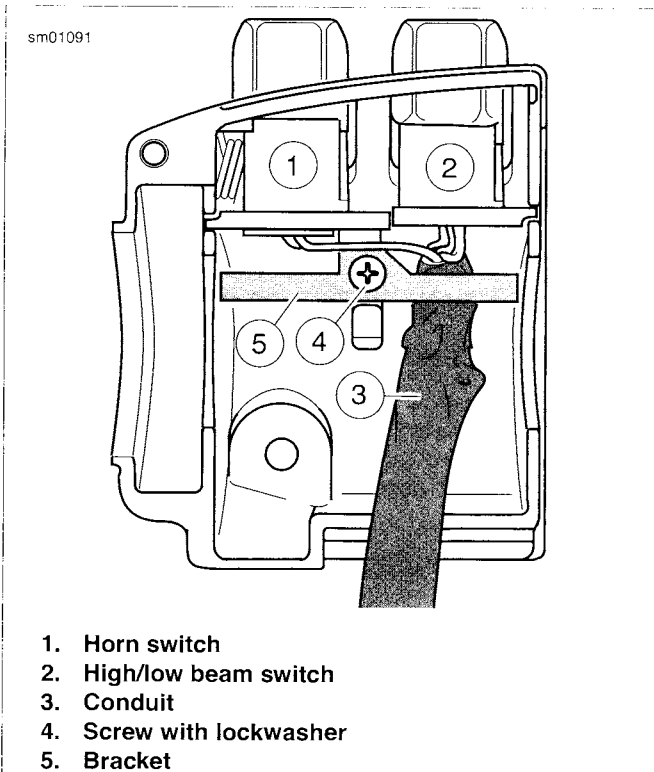
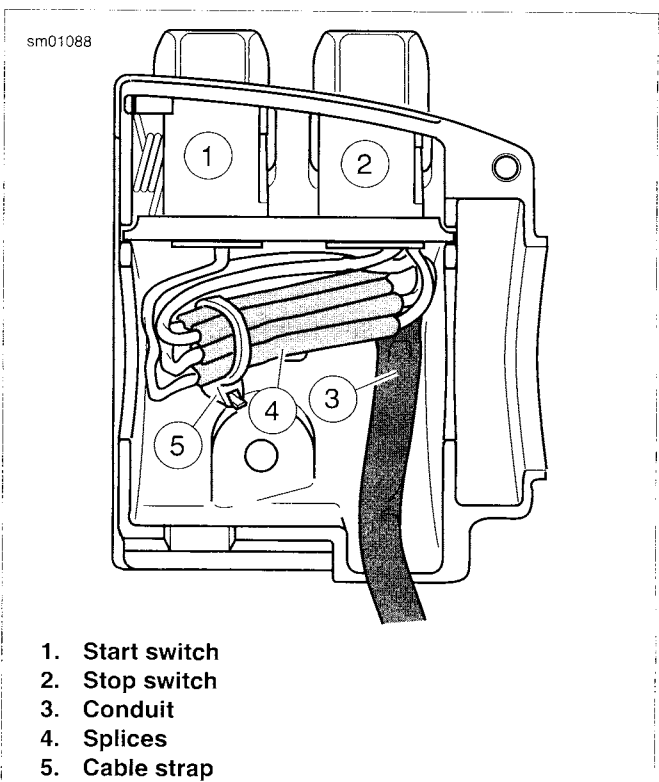

Figure 7-96. Upper Housing Without Splices
Figure 7-97. Upper Housing With Splices
1. See Figure 7-96. From inside the switch housing, remove the screw with lockwasher (4) to release the bracket (5). Remove the bracket and switch assembly from the housing.
2. Move cable conduit (3) from beneath wing of bracket. Cut wires 0.25 in. (6.4 mm) from old switches (1, 2). Discard old switch and bracket assembly.
3. Slide conduit forward over cut ends of switch wires and cut off 0.5 in. (12.7 mm) of conduit (3) material. Push conduit back to access switch wires.
4. See Figure 7-97. Separate **new** engine stop switch (2) and engine start switch (1) wires into two bundles.
6. Loop switch wires so that spliced lengths are positioned as shown in Figure 7-97. Route wires downstream of splices beneath wing on engine stop switch side of bracket as shown in Figure 7-96.
7. See Figure 7-97. Install a **new** 7.0 in. (177.8 mm) cable strap (5) beneath wing on engine start switch side (1) of bracket and capture wire splices (4).
9. See Figure 7-96. Install screw and lockwasher (4) to secure bracket (5) inside housing. Verify that wing on engine stop switch (2) side of bracket captures edge of conduit (3) as shown.